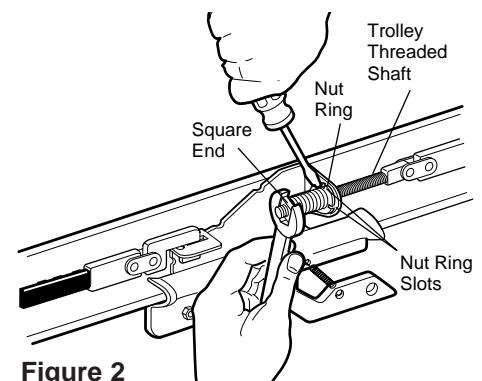

Figure 2
- Insert a screwdriver tip into one of the nut ring slots and brace it firmly against the trolley (Figure 2).